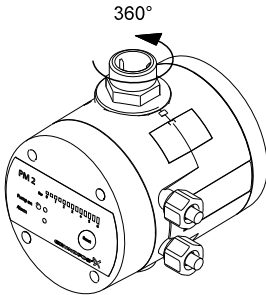

Fig. 1 Rotary outlet connection
The outlet connection of the pressure manager can be rotated 360°. See fig. 1.
2. Carry out the electrical connection as shown in fig. 1 or 2 on page 35, depending on motor type.